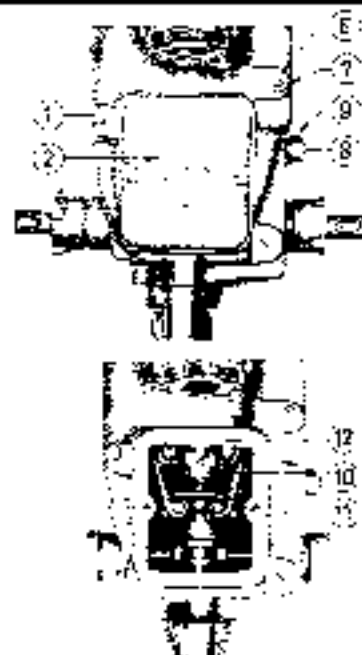

Fig. 21 1 Locking pin
If slipping occurs when running below 1000 rpm, check by edge fitting. It is as in Fig. 21.
1. Start the locking nut 9, Fig. 21.